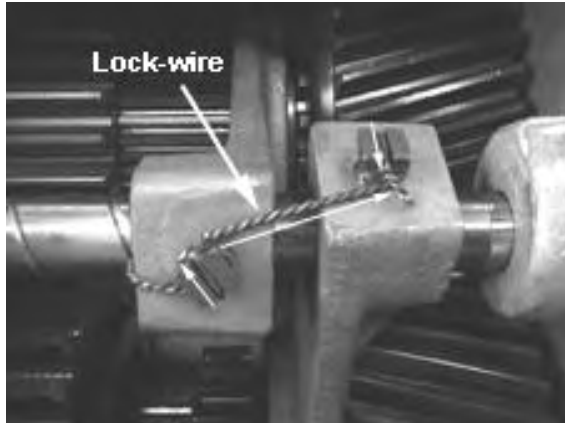

Fig. 89
49. Align the grooves in the shift shaft with the holes in the shift forks. Install bolts with #272 Loctite. Torque to spec. and lock-wire. See Fig. 89.